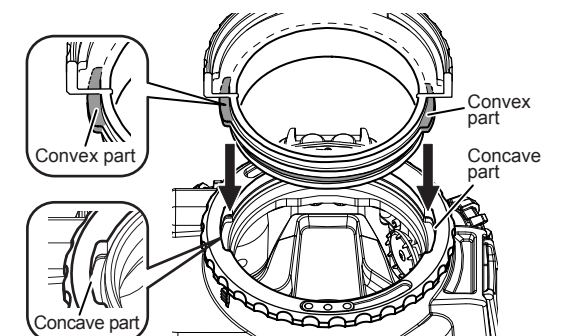

Fig.2
- 2 Align the convex part of the Port Base L with the concave part of the port mount ring, and fully insert the Port Base L into the housing (Fig.2)